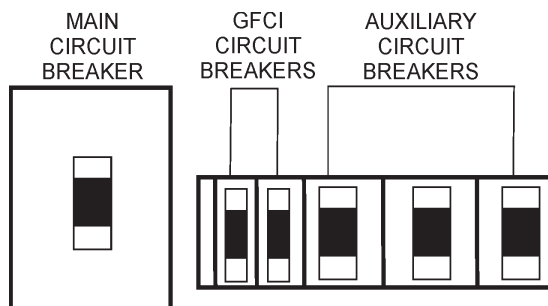

Figure 36. Main, Aux. and GFCI Circuit Breakers
1. Be sure and place the **main**, **G.F.C.I.** and **aux.** circuit breakers (Figure 36) in the “**OFF**” position prior to starting the engine.
1. Place both the **MAIN**, **GFCI** and **LOAD** circuit breakers as shown in Figure 36 to the "OFF" position".
1. To shut-down the engine in the event of an emergency, switch the **MAIN**, **GFCI** and **LOAD** (Figure 36) circuit breakers to "OFF" position.